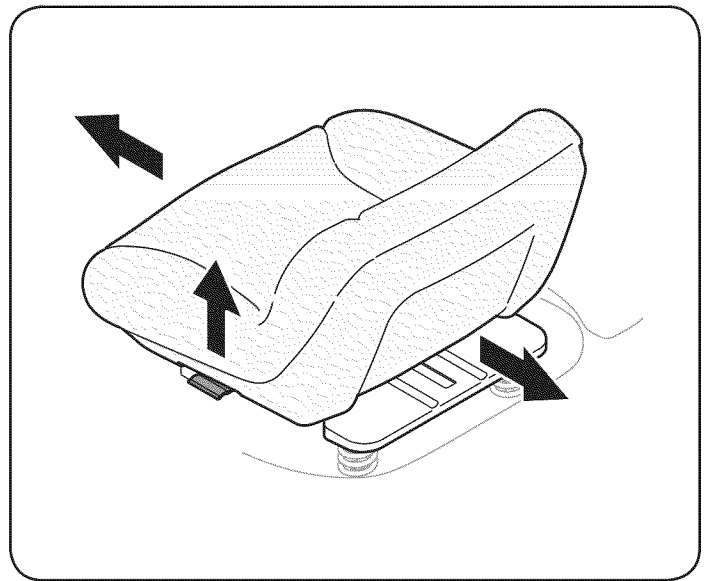

Figure 5
7. To adjust the position of the seat, pull up and hold the seat adjustment lever. Slide the seat forward or rearward to the desired position; then release the adjustment lever. Make sure seat is locked into position before operating the tractor. See Figure 5.